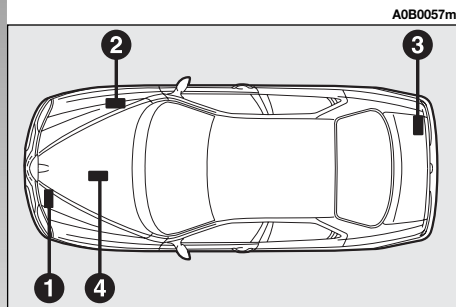
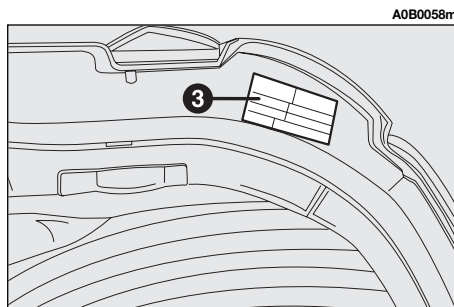
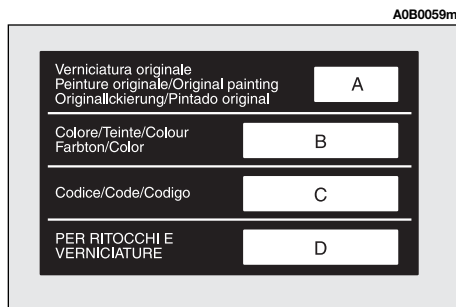

fig. 1
fig. 2
fig. 3
- Saloon versions = **fig. 1**
- Sportwagon versions = **fig. 2**
On the Saloon versions, the plate is applied in the internal part of the luggage compartment (**3-fig. 1**), while on the Sport-wagon versions it is applied on the right-hand internal edge of the tailgate (**3-fig. 2**). The plate carries the following data (**fig. 3**):